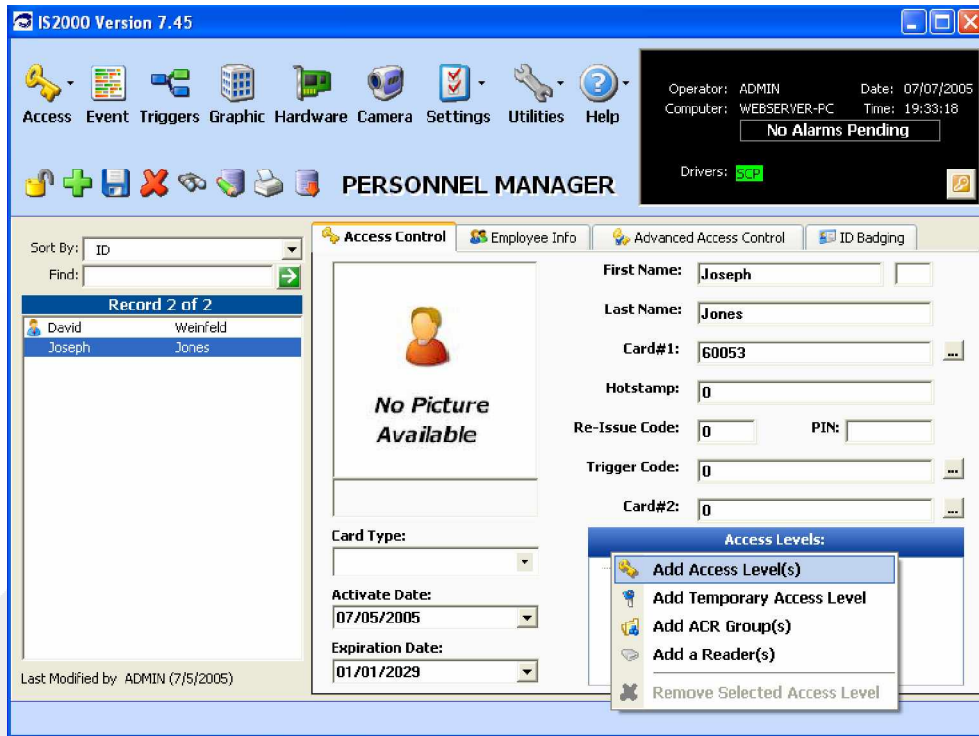

Figure 62 - All Access
Refer to Figure 62.
- d. Right click in the Access Level window as shown in Figure 62.